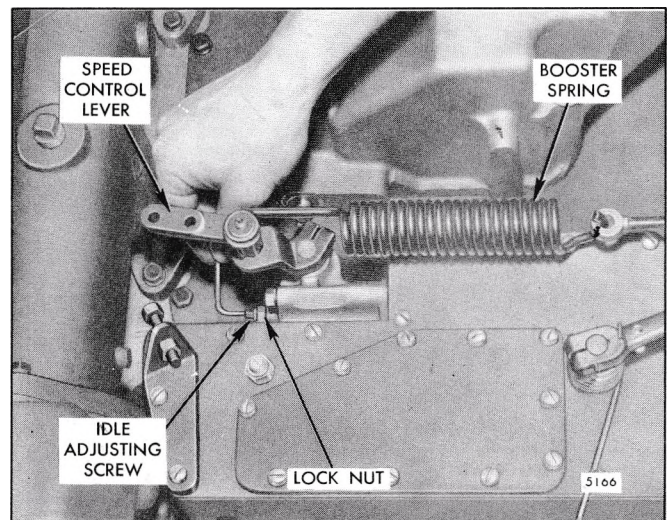

Fig. 9 - Adjusting Idle Speed
2. With the engine running at normal operating temperature, loosen the locknut and turn the idle speed adjusting screw (Fig. 9) until the engine is operating at approximately 15 rpm below the recommended idle speed. The recommended idle speed is 550 rpm, but may vary with special engine applications.